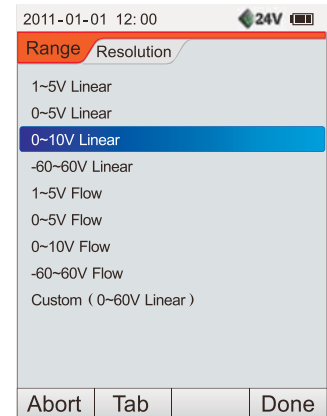

Figure 9.9 Setup voltage measure
- 1) Press **F1** to enter the scale range setting interface, as shown in Figure 9.9.